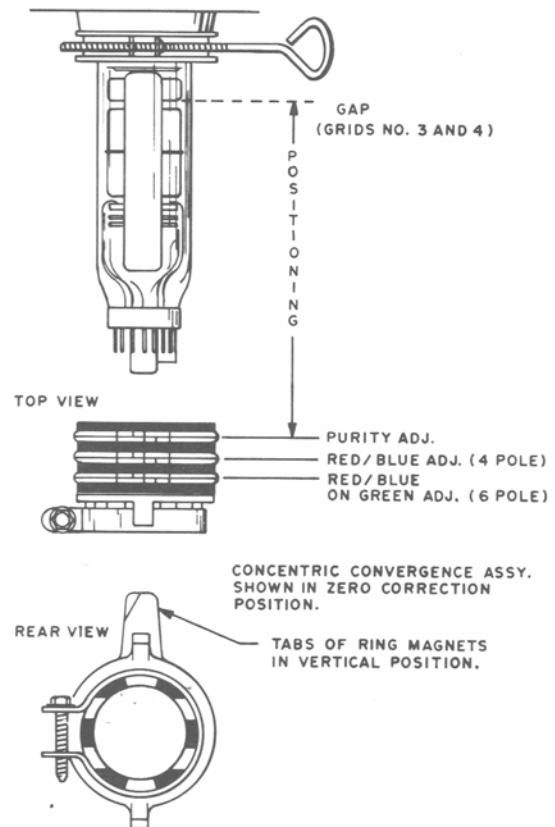

FIGURE 6
NOTE: Replacing the picture tube will require checking adjustments for purity, convergence and white balance. Readjustments may be required. Refer to pages 11 through 12 and Figures 6 through 9.
With yoke on, CRT neck, set convergence assembly on CRT neck with the center line (of Purity Adjustment Magnet) over gap between grids No. 3 and No. 4. The convergence assembly consists of 3 sets of ring magnets with tabs (Figure 6).
Tabs of the 3 magnetic ring-pairs are to be in a vertical position which will produce a zero-correction state and facilitate adjustments (Figure 6).
2. A pair of 4-Pole Convergence Magnets is provided and adjusted to converge the blue and red beams (Figure 6). When the Pole opens to the left and right 45° symmetrically, the magnetic field maximizes. Red and blue beams move to the left and right. Variation of the angle between the tabs adjusts the convergence of red and blue vertical lines.
4. A pair of 6-Pole Convergence Magnets is also provided and adjusted to converge the magenta (red + blue) to green beams (Figure 6). When the Pole opens to the left and right 30° symmetrically, the magnetic field is maximized. Red and blue beams both move to the left and right. Variation of the opening angle adjusts the convergence of magenta to green vertical lines.